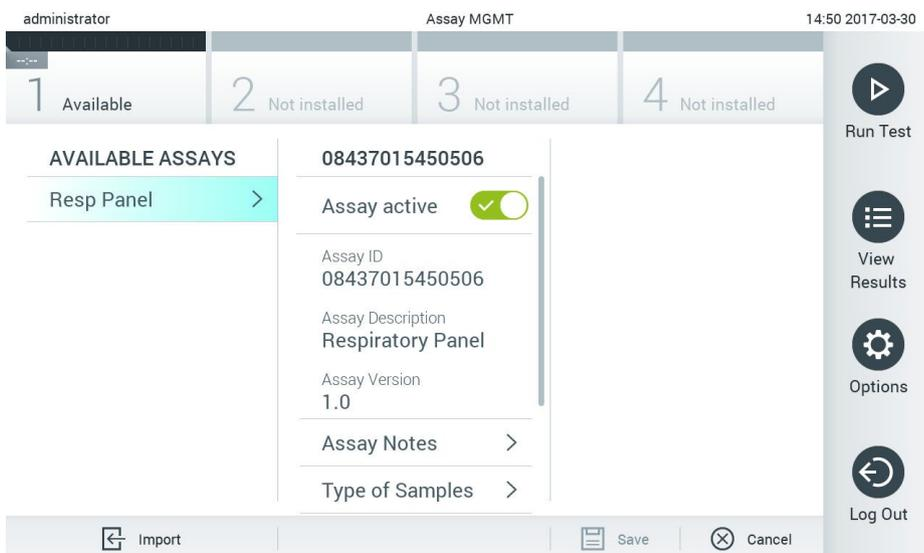

Figure 66. Managing available assays.
1. Press the **Options** button and then the **Assay Management** button to access the **Assay Management** screen. The available assays are listed in the first column of the content area (Figure 66).